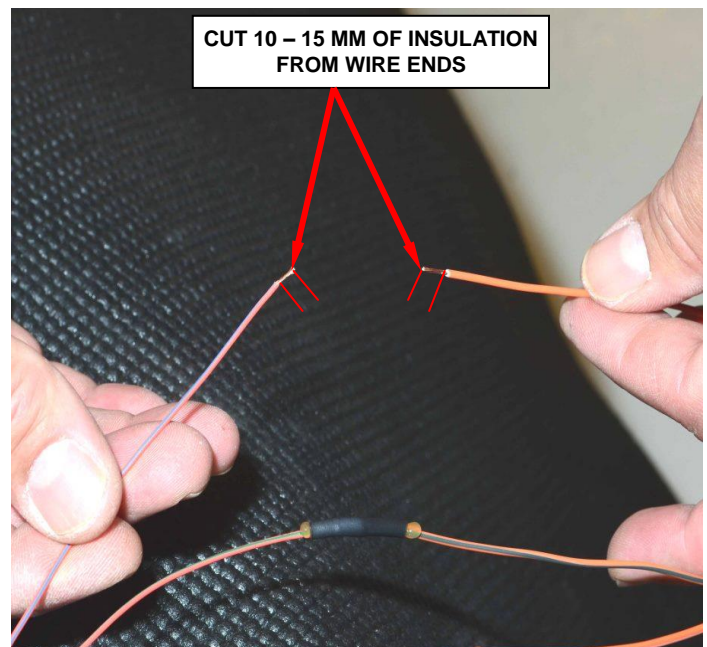

Figure 9 – Strip 10 – 15 mm of Insulation from the End of the Wires
- b. Strip approximately 10 - 15mm of insulation from the end of the wires (Figure 9).